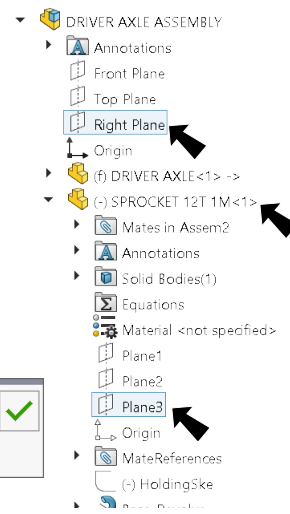

Fig. 10
Step 2. Expand the flyout Feature Manager design tree (click ) in the top left corner of the graphics area, expand **Sprocket** and click **Plane3** , **Fig. 10**.